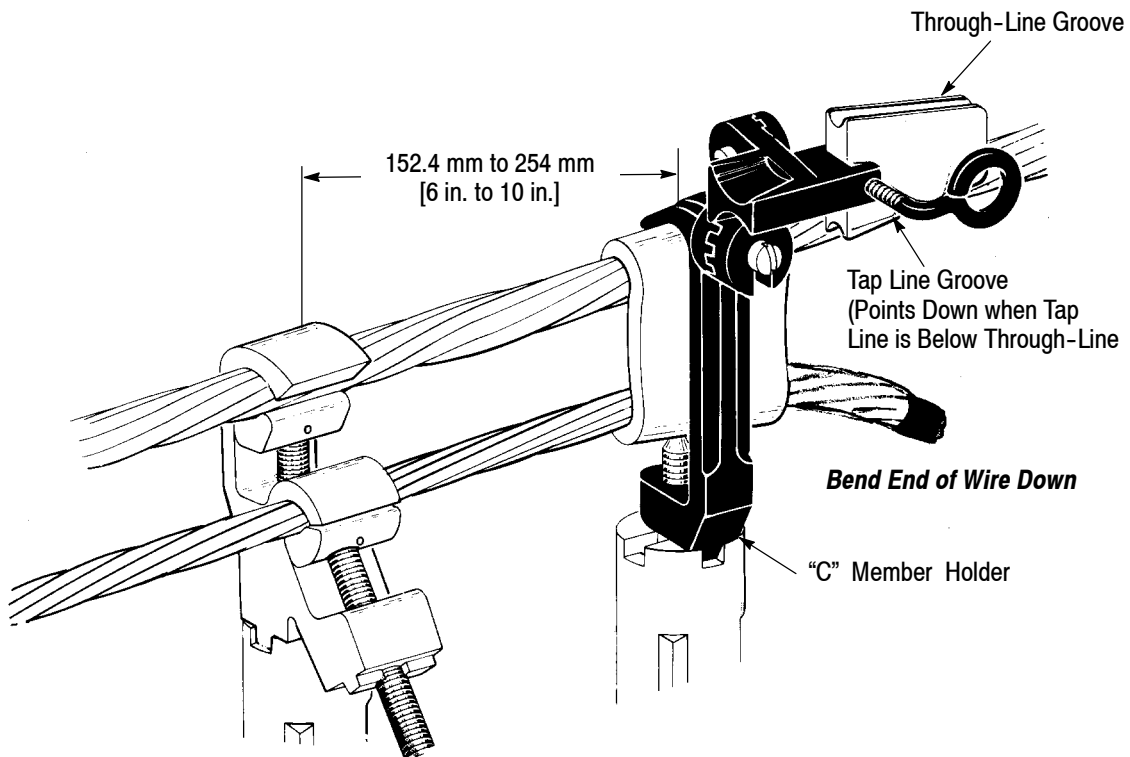

Figure 17
3. Install the "C" holder in shotgun stick and hook "C" member over tap wire and through-line 152.4 mm to 254 mm [6 to 10 inches] away from the piggyback clamp, with narrow end of "C" toward the piggyback clamp. See Figure 17.